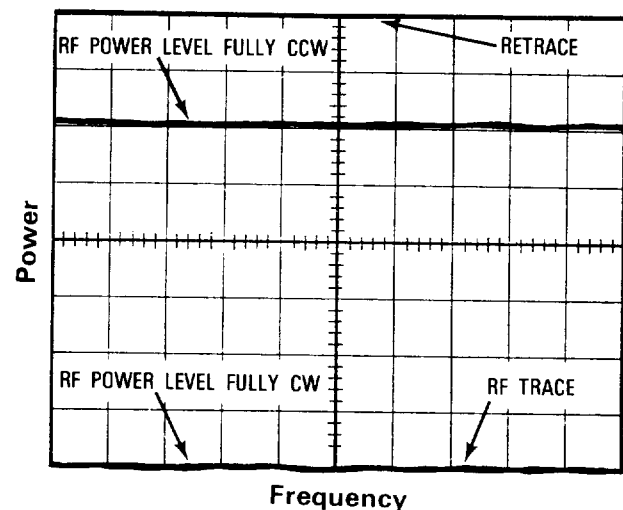

Figure 5-11. 10 dB RF Power Level Control Range Adjustment
8. Adjust Lower Level Limit A1R63 until RF trace lies just above the second major division of the horizontal graticule line (Figure 5-11).